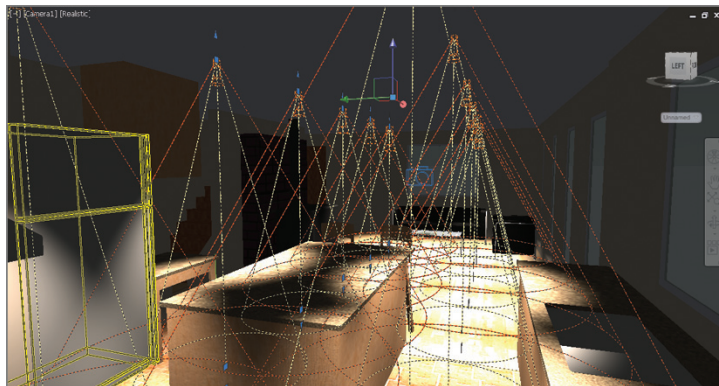

FIGURE 18.13 Selected spotlights reveal light coverage as seen in the camera view.
16. In the Properties palette, change Lamp Intensity to **15000**, Hotspot Angle to **30**, and Falloff Angle to **60**. Figure 18.13 shows the resulting light glyphs in the drawing canvas. The outer orange cones represent the spotlight's falloff angle and the inner yellow cones represent the area of full light intensity. Close the Properties and Lights In Model palettes. Press Esc to deselect all.